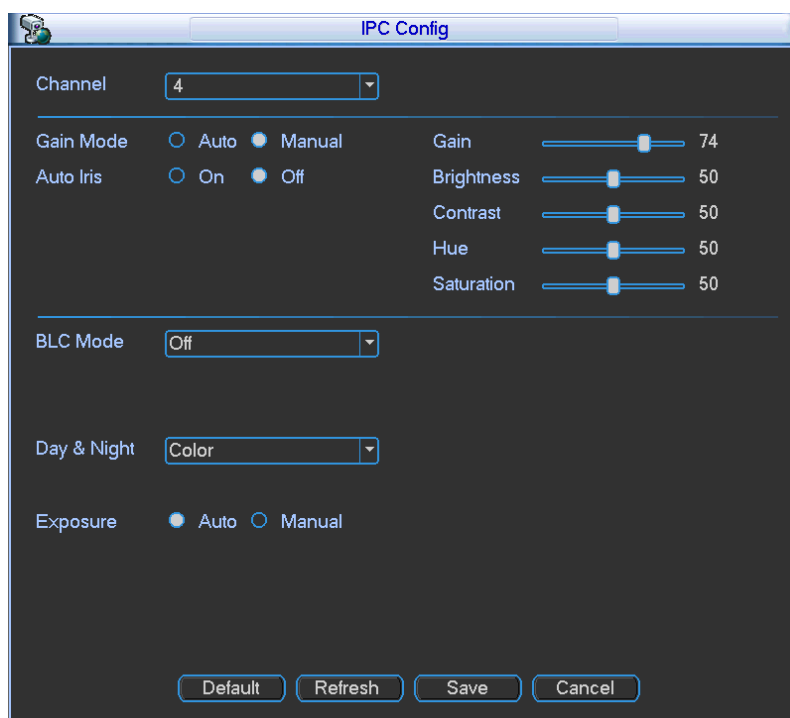

Figure 5-78
- IPC config: Double click the  on the IPC config column, you can go to the IPC setup interface. See Figure 5-78.